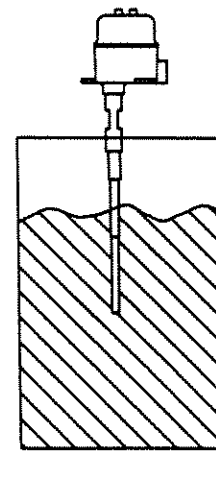

Figure 4-5
- A. Set the level to a point on the active section of the sensing element where control is desired (3 to 6 inches of coverage minimum). See Figure 4-5.